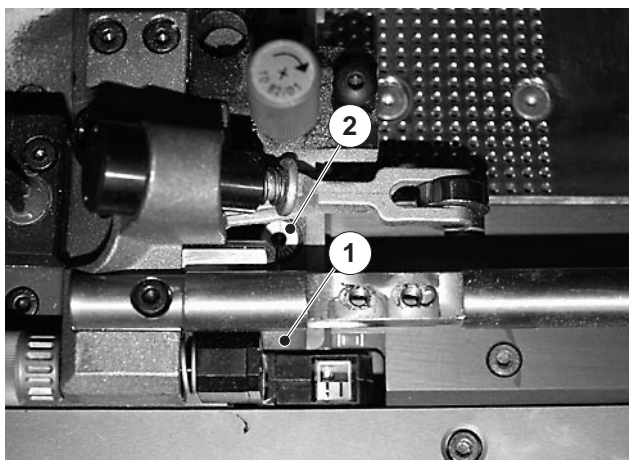

Fig. 64 Pull stop adjusting elements
You can adjust the angle of the pull stop if the sheets are not cut at right angles or if the front lays are inclined. In the basic adjustment (orthogonal position), the long mark on the adjustment eccentric (Fig. 64/2) is at the mark on the pull stop.
1. Adjust the pull stop (Fig. 64/1) on the adjustment eccentric (Fig. 64/2) to the edge of the print sheet.
2. Set the pull stop such that it is at right angles to the front lay (the long mark on the adjustment eccentric (Fig. 64/2) is at the mark on the pull stop).